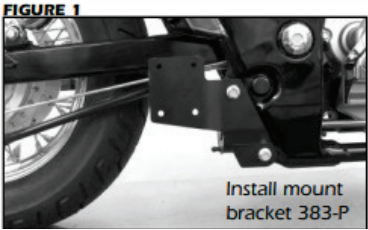
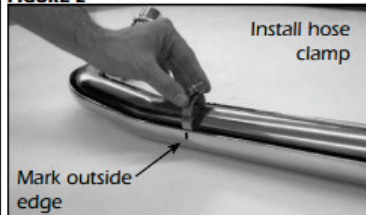

FIGURE 2
FIGURE 3
3. Remove head pipes and heat shields from protective packaging. Place each heat shield on a non-abrasive surface such as a blanket or carpet. Using a felt tip pen, mark the outside edge of each heat shield to show location of hose clamp mounting clips (Figure 2).
4. Lay head pipes into their respective heat shields. Loosely install hose clamps by feeding tail end of clamp into heat shield clips (Figure 2). Take note of screw head direction (Figure 3). Screw head should be accessible when a system is installed on motorcycle for adjustment purposes. Use #20 hose clamps for head pipe areas and #28 hose clamps for muffler areas.